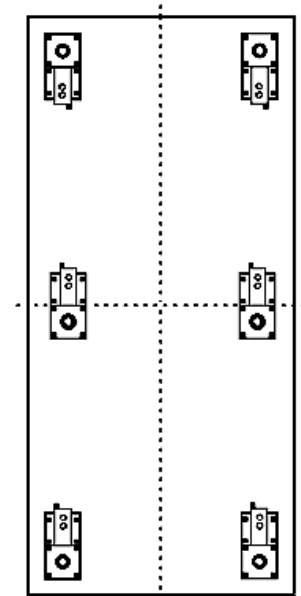

Figure 5
3. When installing six Load Cells (*Figure 5*), **be extremely careful** to position the center Omnicells® to the same height as the outer Omnicells®.